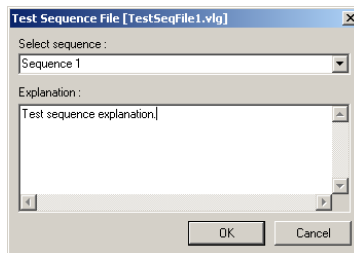

Figure 155: Test Sequence File dialog box (Validator)
To enter a name and explanation for the test sequence, choose *Sequence>Select Sequence*. Type name and explanation in the dialog box displayed. See *Figure 155*, page 190.
To open a sequence that is not previous or next, choose **Sequence>Select Sequence**. This will open a dialog box where you can select the sequence by clicking in the list box. See *Figure 155*, page 190.
- 2 Choose **File>Test Sequence File> Open**, and specify the file to use. The test sequence file window is displayed. Select the test sequence to apply. See *Figure 155*, page 190. On the pop-up menu, choose **Step results** to open the output section of the window, if it is not already open.